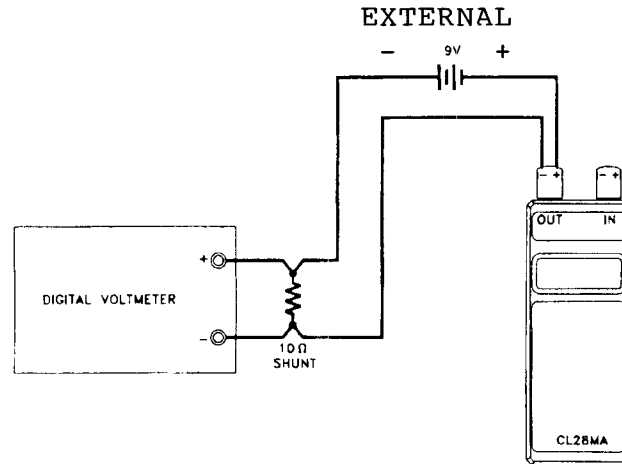

Figure 9. Calibration Setup, Simulator Output
9. Hook up test-equipment, cables, and CL28MA per Figure 9.